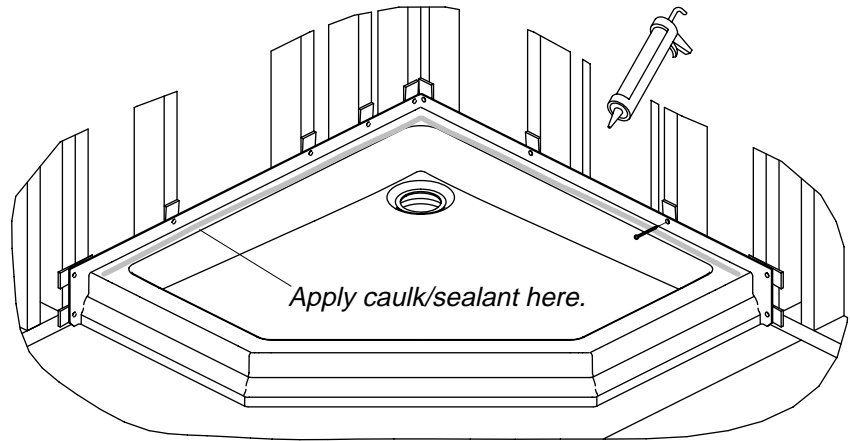

Figure 2
- Shim the receptor as needed at each of the remaining wall studs and finish nailing the receptor into place in the predrilled holes. (Figure 2)
- Attach furring strips to the studs to ensure the wallboard installation is true and level. (Figure 2)